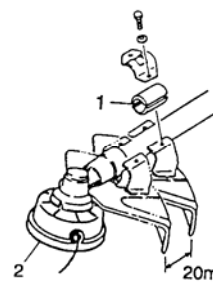

Fig. 1-8C
When using a trimmer head (2), locate the guard above the gear case. (Fig. 1-8C, 8D, 8E)